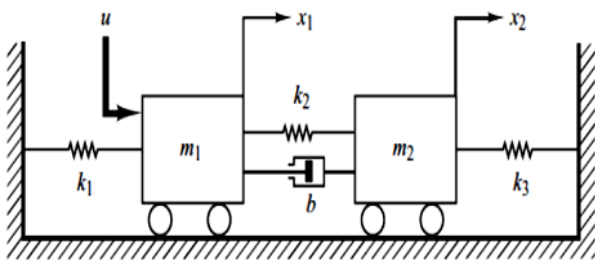

FIG: Q1C
- 1B.** A common example of a two-input control system is a home shower with separate valves for hot and cold water. The objective is to obtain (1) a desired temperature of the shower water and (2) a desired flow of water. Sketch a block diagram of the closed-loop control system. **3**
- 1C.** Obtain the transfer function $X_2(s)/U(s)$ for the mechanical system shown in figure Q1C. **3**